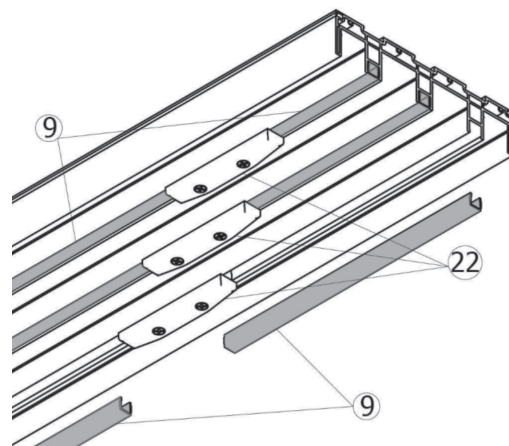

Figure 30
47. Locate the frame screw covers (Item 9) and cut them to the lengths determined in the previous step (Figure 30).
48. Snap the cover into the frame head, using a rubber mallet to secure the cover (Figure 30).